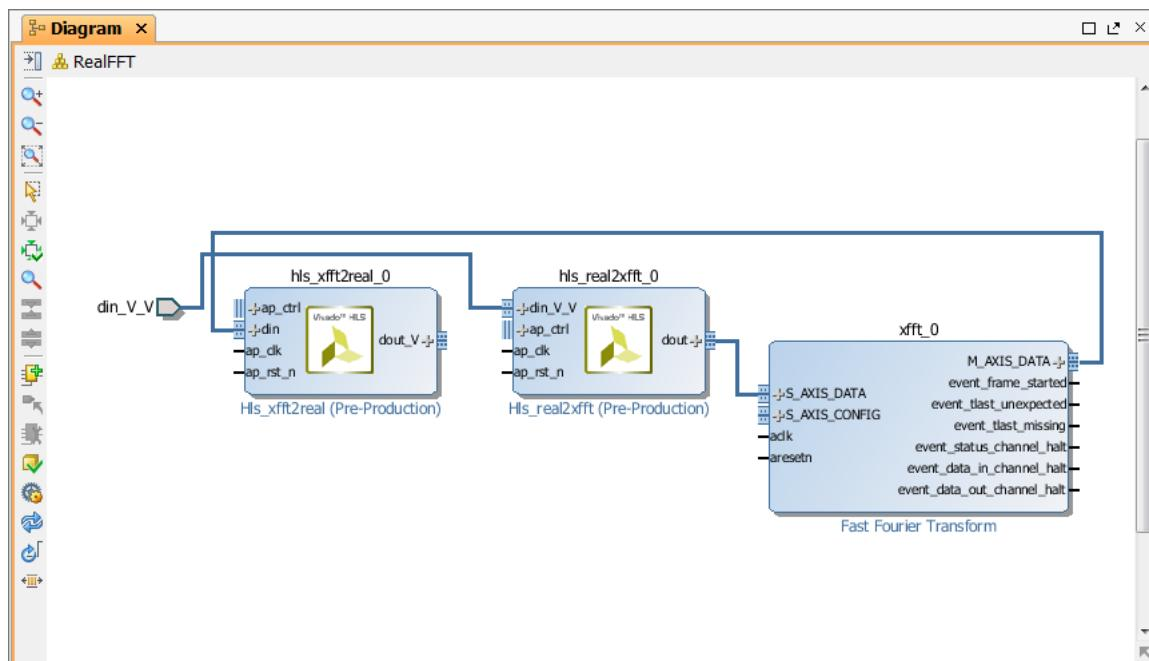

Figure 9-18: Make External Connections
- Right-click the `din_V_V` interface connector on the **hls\_real2xfft** block and select **Make External** (Figure 9-18).